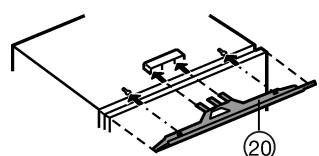

Fig. 8
- ▶ Fit the equaliser trim Fig. 8 (20) concentrically onto the appliance: Slide it into the recess and engage it in the keyholes.